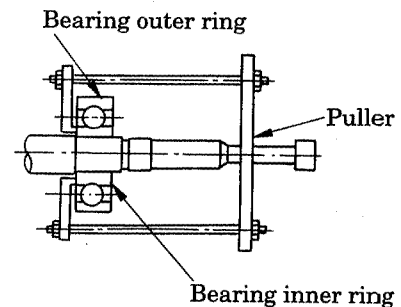

Fig. 14 Removal of Ball Bearing
- (3) Pull out the ball bearing (Fig. 14) and roller bearing inner ring with a puller.